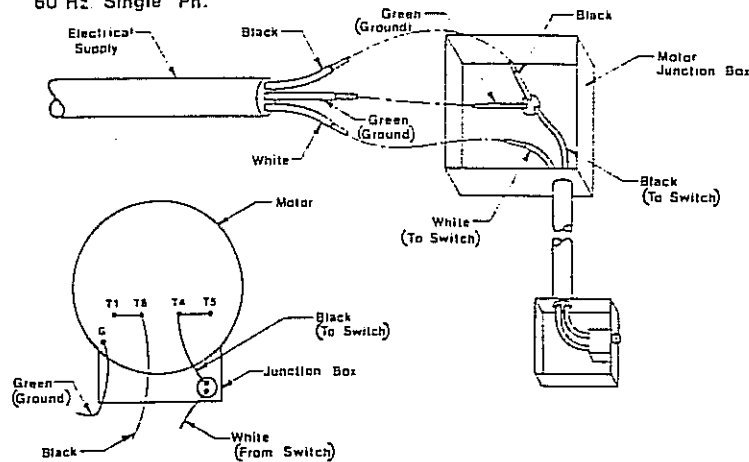

FIG. 9
12. **POWER UNIT:** Install unit to control side column with (4) $5/16"$ x $3/4"$ bolts, L.W. & nuts with motor up, Fig. 9.
4. If lift stops short of full rise or chatters, check fluid level and bleed cloth cylinders per instructions. Clean power unit filter, Fig. 9.